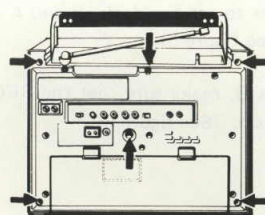

Fig. 2
- 2) Unfasten the six screws. (See figure 2)